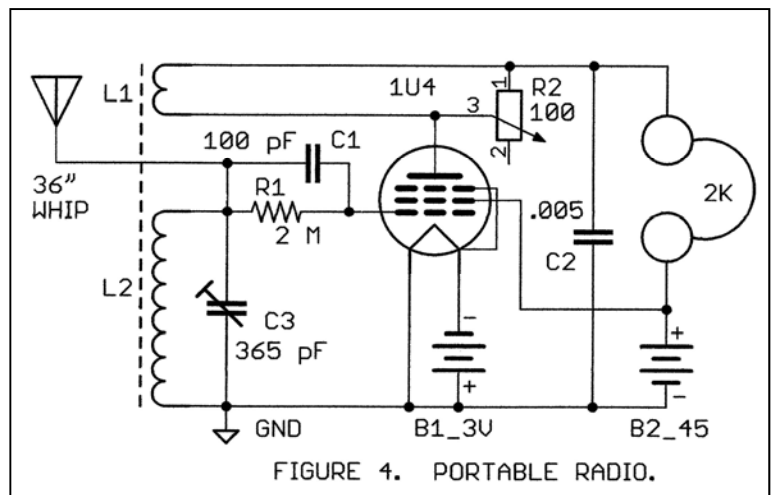

FIGURE 4. PORTABLE RADIO.
I built several simple portable radios, which I carried around school to listen to during breaks. What made these radios feasible was a new type of radio-frequency (RF) inductor with a ferrite core and very high “Q.” The single tube was a 1U4 pentode in a regenerative circuit with controlled positive feedback for high sensitivity, as shown in figure 4. Because power needs were modest, I was able to use batteries that didn’t have enough juice left for regular radios, and several repair shops saved their customers’ old batteries for me.